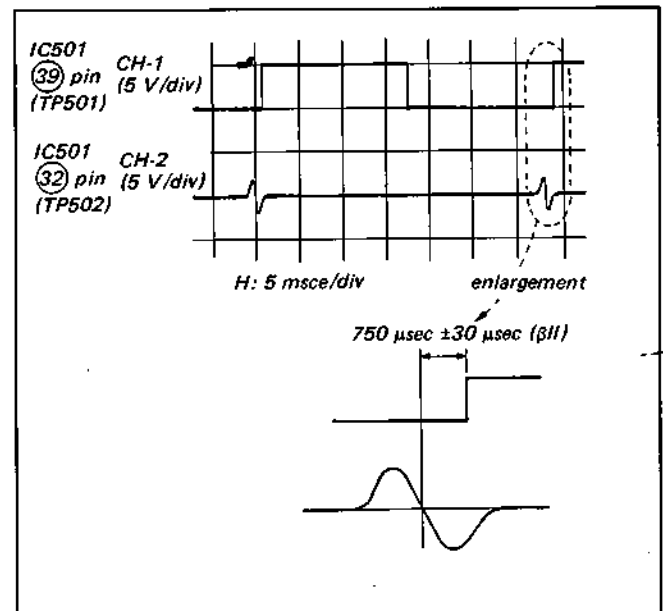

Fig. 5-9. RF switching position adjustment (1)
- (1) Connect CH-2 with pin 32 of IC501 (TP502), and then adjust to 750 μ sec \pm 30 μ sec with RV518. (β I switching pulse A) (See Fig. 5-9)